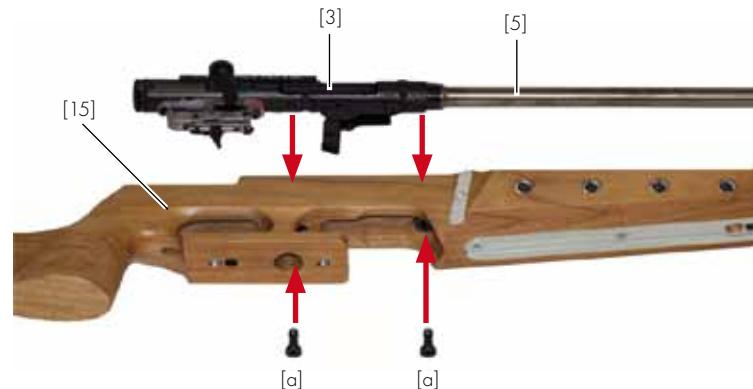

Fig. 2 Attaching the barrelled action
- Lay the barrelled action [5] in the milled-out channel in the stock [15] (see Fig. 2).